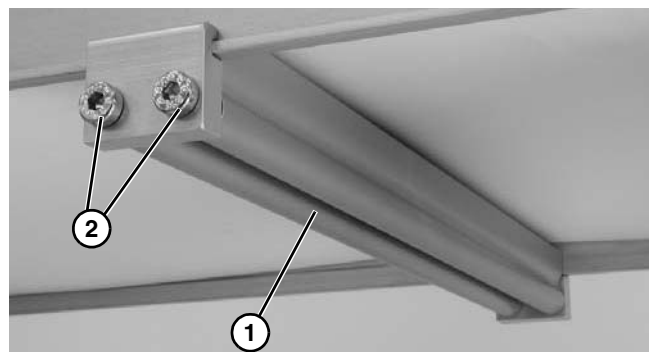

Figure 12
3. Install roller assembly as shown (Figure 12, item 1). Tighten screws (Figure 12, item 1) to 60 in-lb (7 Nm).